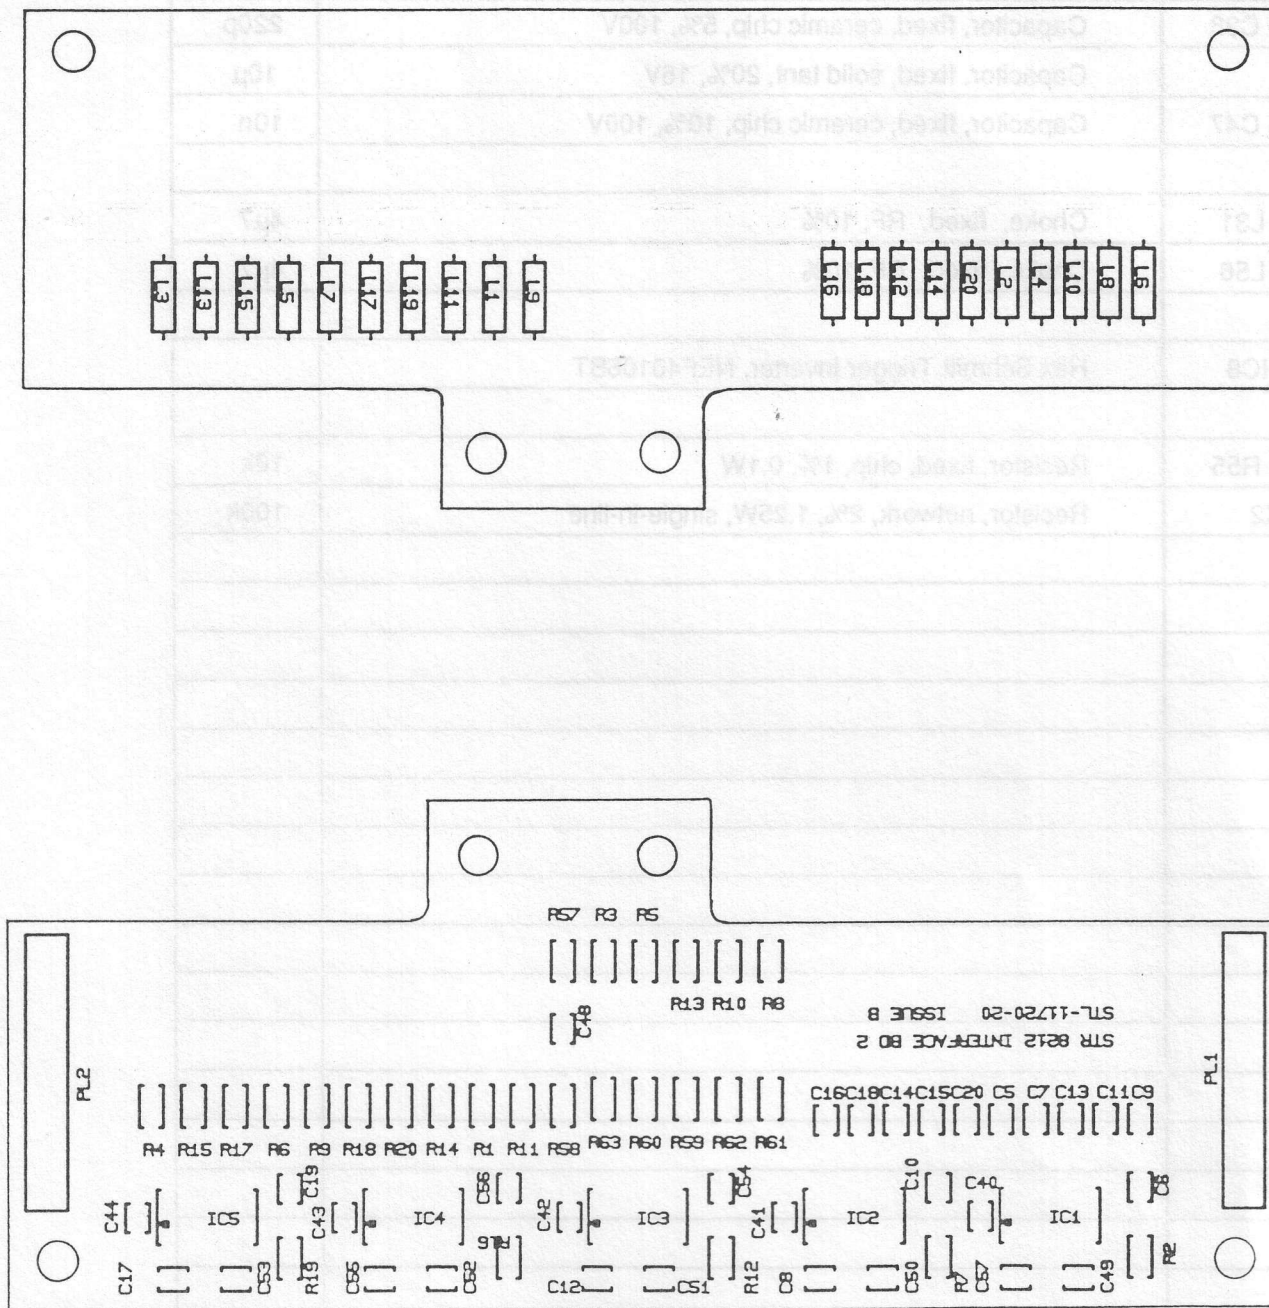

Figure 2 - Interface Board 2 Component Layout
- Figure 2 Interface Board 2 Component Layout